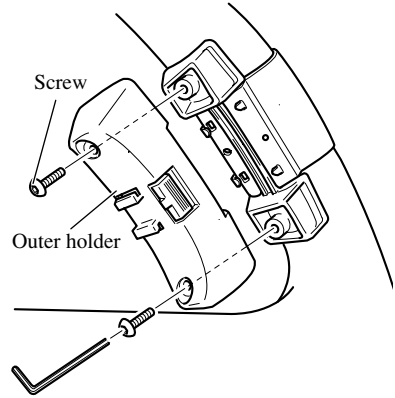

Fig. 10
3. Install outer holder on the inner holder and secure with screws. (Fig. 10)